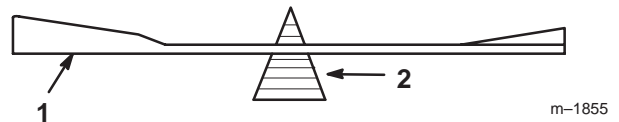
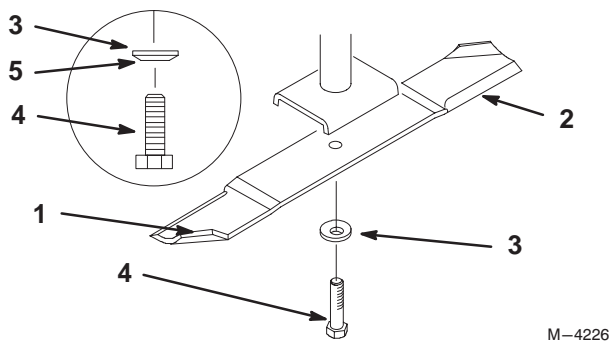

Figure 35
Figure 36
1. Hold the blade end using a rag or thickly-padded glove. Remove the blade bolt, spring disk and blade from the spindle shaft (Fig. 36).
2. Check the balance of the blade by putting it on a blade balancer (Fig. 35). If the blade stays in a horizontal position, the blade is balanced and can be used. If the blade is not balanced, file some metal off the end of the sail area only (Fig. 36). Repeat this procedure until the blade is balanced.
1. Install the blade onto the spindle shaft (Fig. 36).
2. Install the spring disk and blade bolt. The spring disk cone must be installed toward the bolt head. (Fig. 36). **Torque the blade bolt to 85–110 ft-lb (115–150 N•m).**